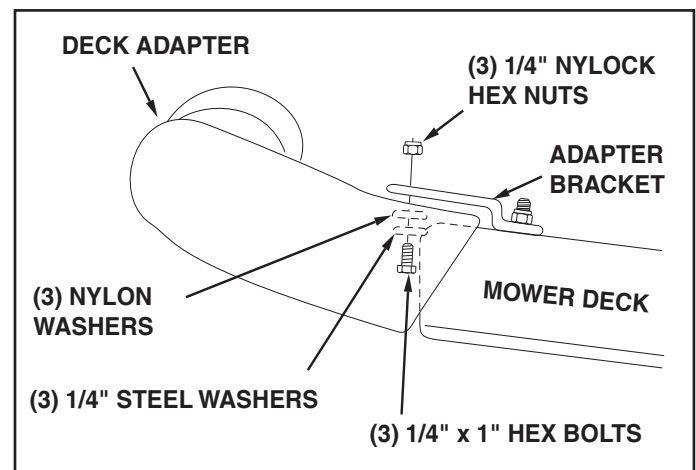

FIGURE 15
- With deck adapter positioned correctly over the discharge opening, use the adapter bracket as a template and drill three 9/32" diameter holes in the top of the deck adapter. See figure 15.
- Bolt deck adapter to bracket using three 1/4" x 1" bolts, nylon washers, 1/4" flat washers and 1/4" Nylock hex nuts. Nylon washers should be against the inside of the deck adapter. See figure 15.